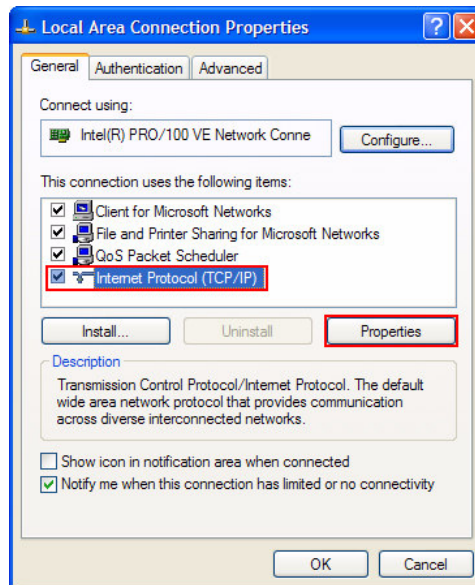

Figure 26. Local Area Connection Window
5. Select **Internet Protocol (TCP/IP)**, then click the **Properties** button, as shown in Figure 26.